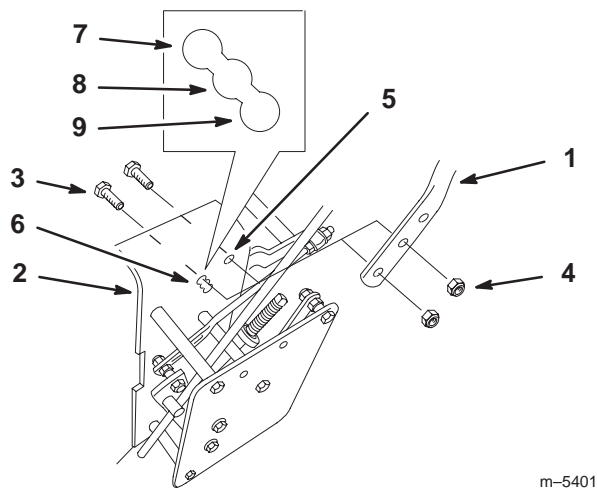

Figure 3
Important Install the flange bolts (3/8 x 1 in. (26 mm)) with the bolt head on the inside of machine frame. Refer to figure 3.
1. Align upper handle with upper mounting holes in rear frame (Fig. 3).
2. Secure each upper mounting hole with a flange bolt (3/8 x 1 in. (26 mm)) and flange nut (Fig. 3).
3. Select medium or low position for the lower mounting hole (Fig. 3). This allows the upper handle to be adjusted to the user's height preference.
4. Secure each lower mounting hole with a flange bolt (3/8 x 1 in. (26 mm)) and flange nut (Fig. 3).